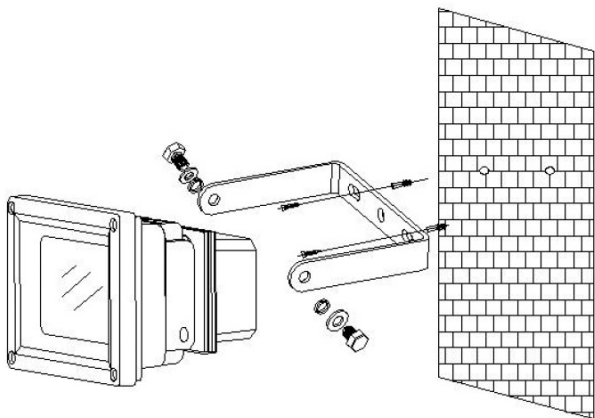

Fig. 4
- (3) Connect the power cords:
- (4) Re-attach the floodlight to the bracket and secure the cable to the wall using suitable clips. Ensure that the cable is not touching the body of the floodlight, and that there is sufficient slack in the cable to allow the floodlight to be tilted and adjusted as required, which should be done by grasping the metal body of the floodlight, not its rear wiring box (fig. 4).